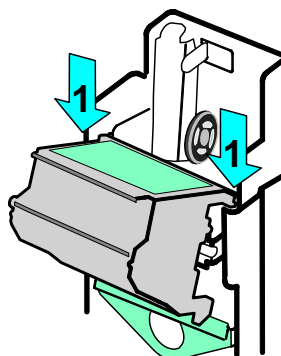

Figure 4-19: Align pins with slots on the swing arm
- 4 Align the printhead cartridge pins with the printhead cartridge slots on the swing arm (see Figure 4-19).
- 5 Slide the new printhead cartridge onto the swing arm, so the pins slide into the slots (see Figure 4-19).